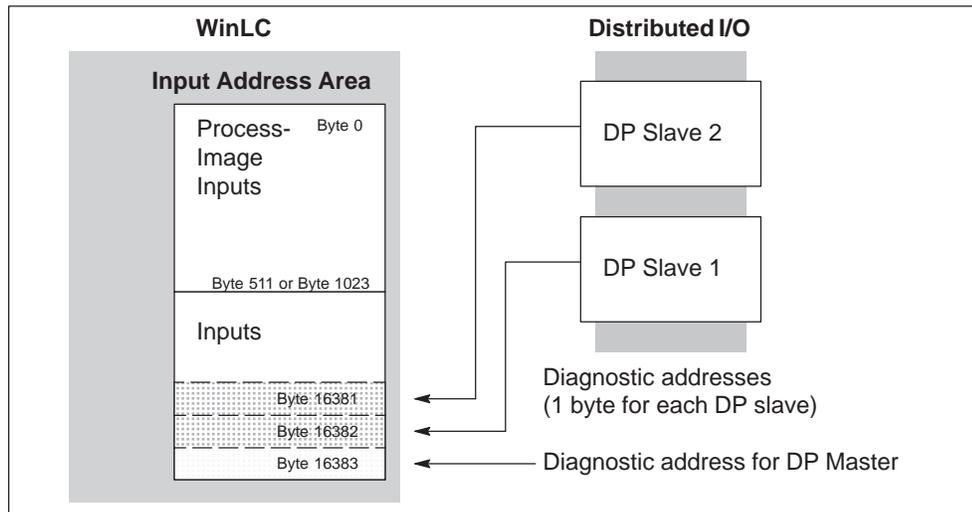

Figure 6-6 Diagnostic Addresses for the Distributed I/O
As you use the STEP 7 hardware configuration tools to configure WinLC and the PROFIBUS-DP network, these diagnostic addresses are assigned above the process-image input (I) memory area. See Figure 6-6. If you do not enter a specific address, STEP 7 allocates IB16383 for the first DP slave, PIB16382 for the second, and so forth.